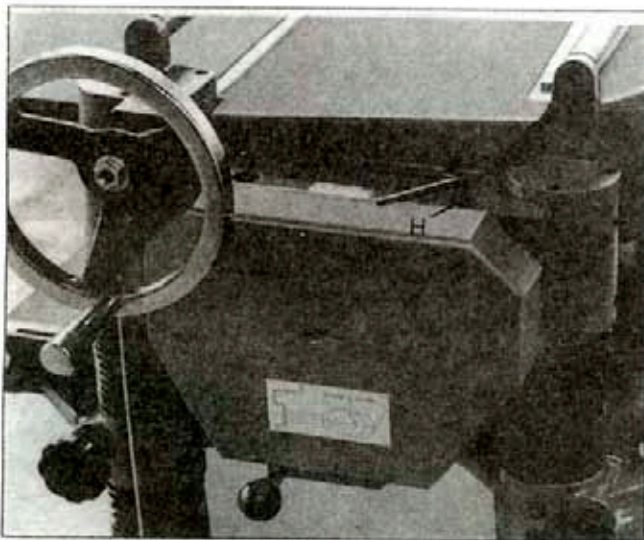

Fig. 28
\* To adjust the spring tension of the Infeed/Outfeed roller, turn the screw (G)/(H) Fig. 28. and also the screw on the opposite end of the Infeed/Outfeed roller.